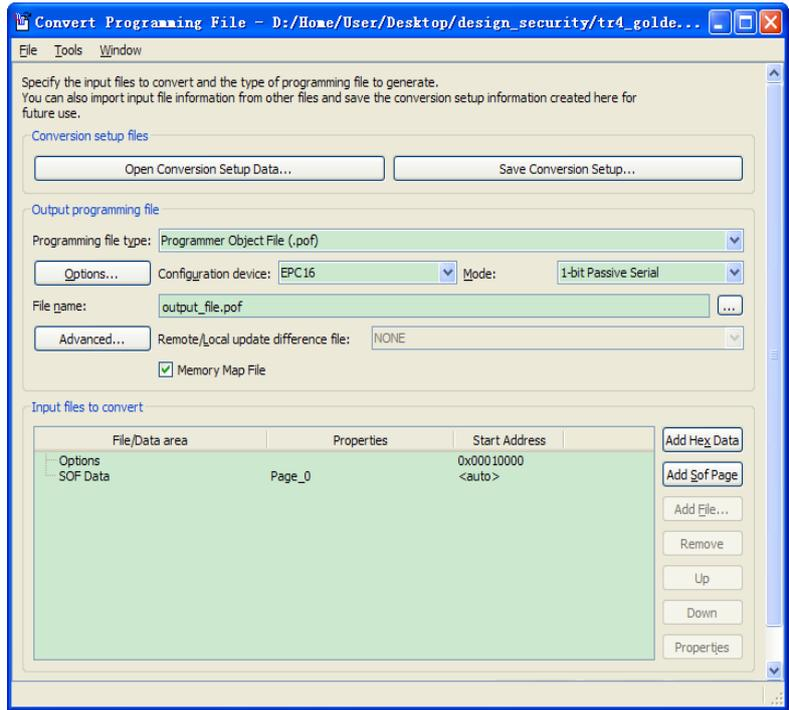

Figure 3-2 Convert Programming Files Dialog Box
7. On the **File** menu, click **Convert Programming Files**. The **Convert Programming Files** dialog box appears, as shown in Figure 3-2.